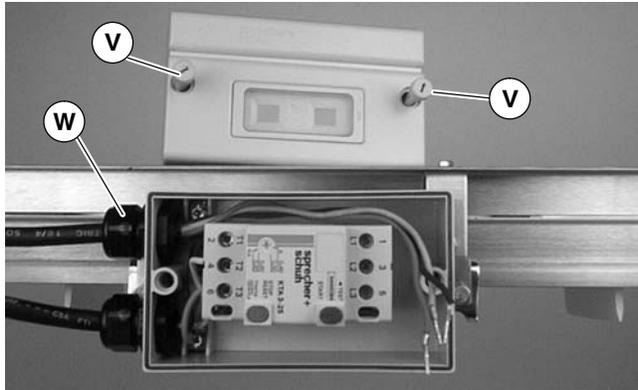

Figure 14
- Loosen cover screws (V of Figure 14) and remove cover.
5. Replace starter cover and tighten screws (V of Figure 14).